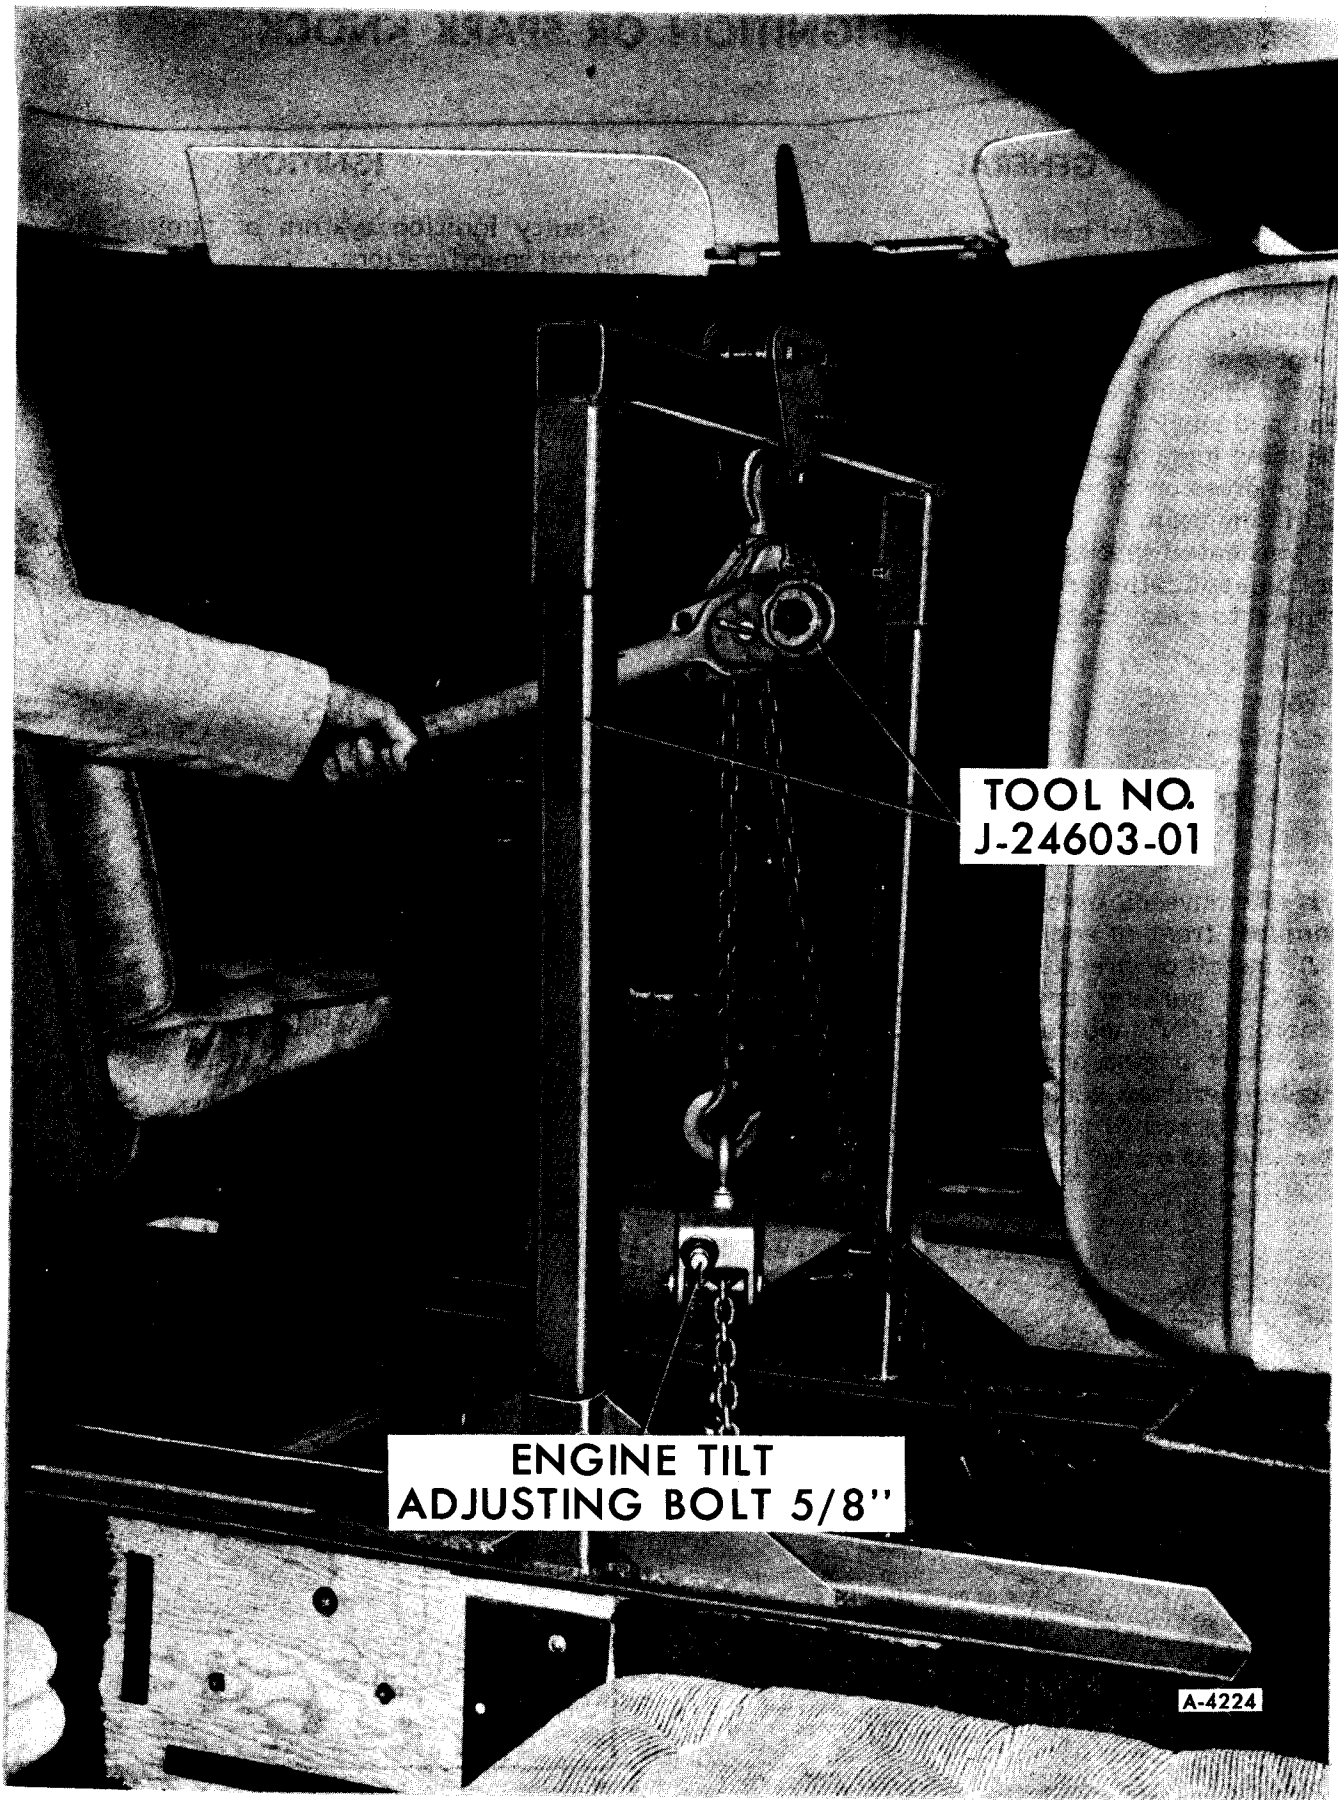

Figure 7—Attaching Engine Removal Tool
1. Attach Engine Lift Tool J-24603-01 as shown in figure 7.
2. Attach Engine Lift Tool No. J-24603-01 as shown in figure 7.